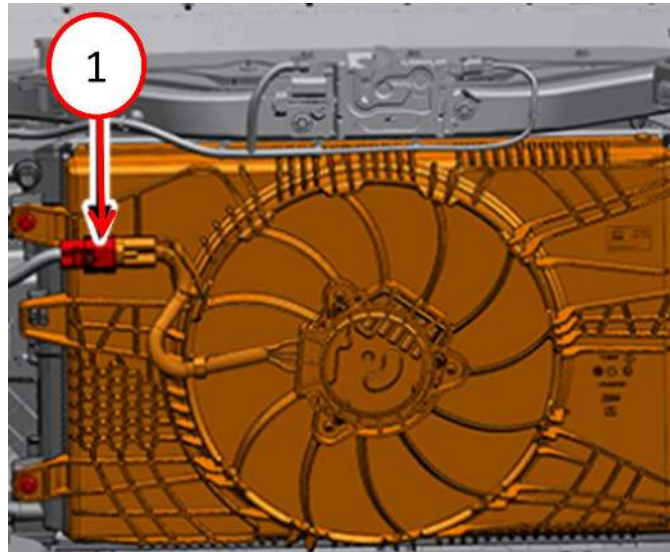

Fig. 1
4. Disconnect the cooling fan wire harness connector Fig 1**.
22. **Connect the cooling fan wire harness connector Fig 1.